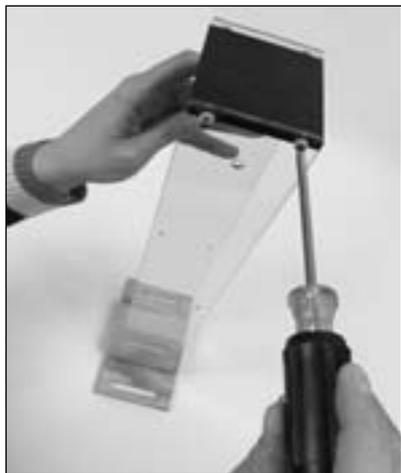

Figure 3
5. Place one of the floor pieces between the two side panels. Line up the predrilled holes in the floor piece to the holes at the top of the side panels. Secure the floor piece to the side panels with four screws and washers (Figure 3).